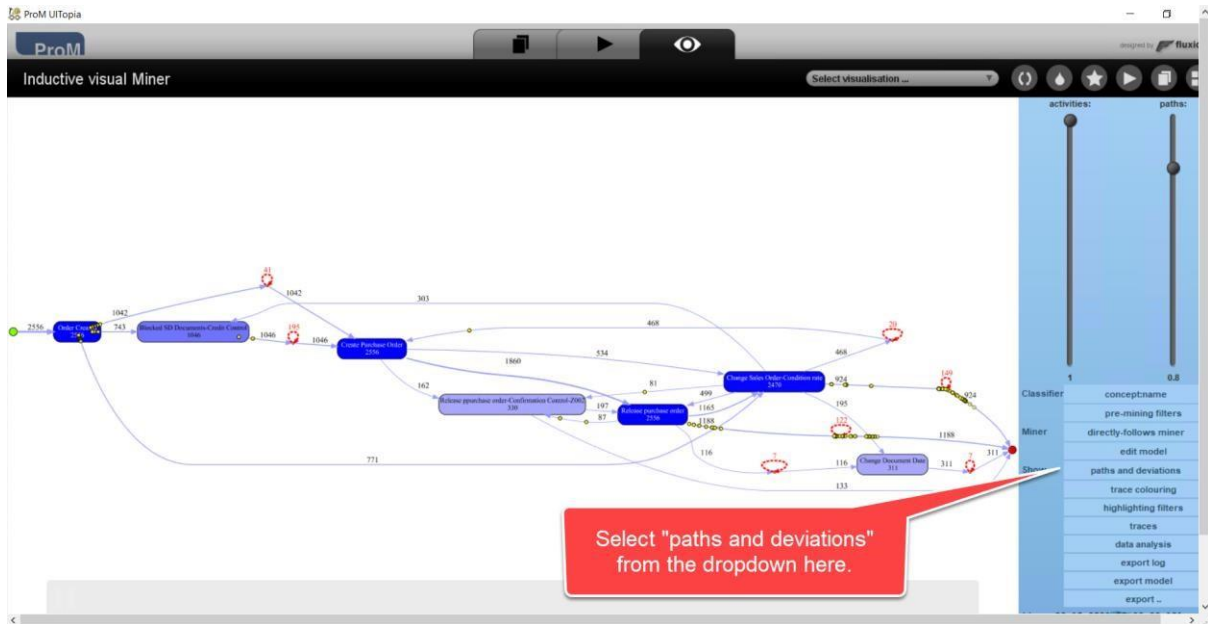

Figure 25 - Image showing how the resulting process mining model and how to display deviations in the model.
21. As seen in Figure 25, by selecting “paths and deviations”, the conformance of the resulting model can be visualized. The resulting model can now be visualized.